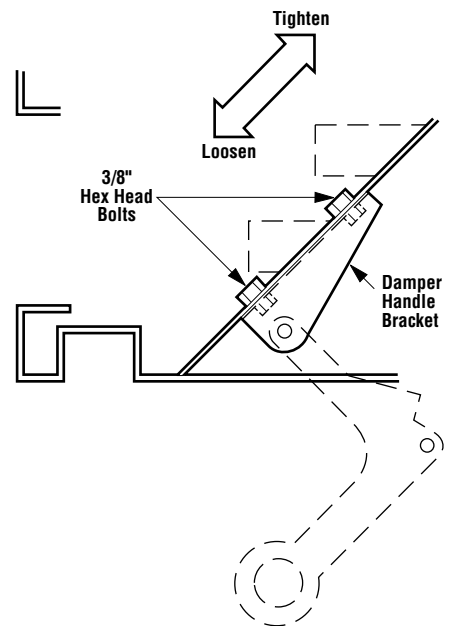

Figure 8
The damper can be adjusted to allow for a firm, but not a tight or loose, closure. With the damper in the open position, loosen the two (2) $\frac{3}{8}$ " hex head bolts found on the center of the smoke dome behind the upper grille assembly. If the damper operates too tightly, slide the damper bracket down towards the front of the fireplace as shown in *Figure 8*. If the damper is too loose, slide the damper bracket up towards the rear of the fireplace. Tighten the bolts and verify that the adjustment is adequate. The damper bracket need only to be moved very slightly.